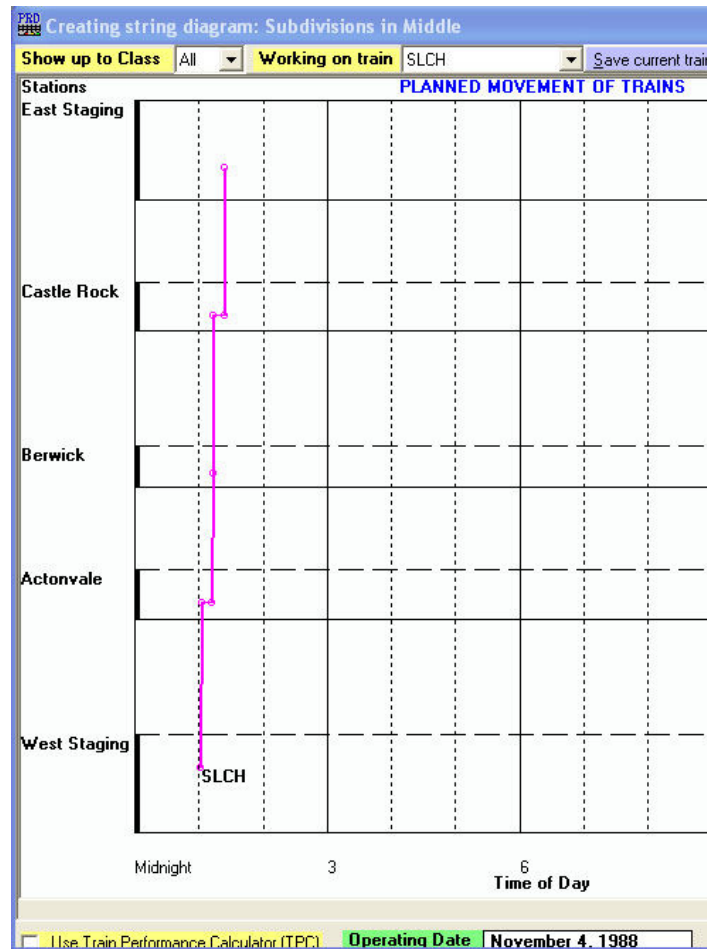

Figure 12-15
10. Figure 12-15 shows what the “Creating string diagram...” window looks like after the first change to train SLCH. Note that only the left portion of the window is shown for clarity sake.